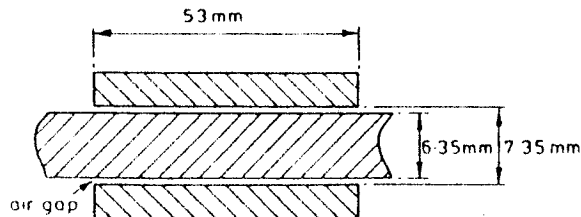

figure 6: transducer
b) Calculate the value of the capacitance of the transducer depicted in figure 6 when the inner rod is fully inserted (8 marks)